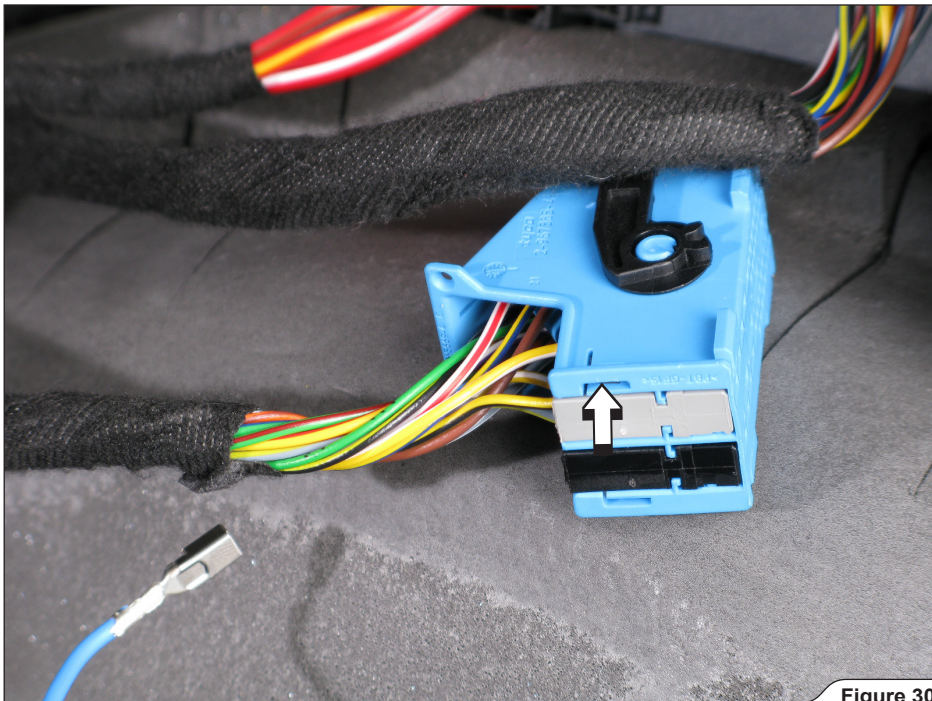

Figure 30
25. Dismantle the connector, plug the transmitter's blue wire with connector pin into the free connector spot (between yellow/white and yellow/black wires) and reconnect the connector into the ECU unit (**Figure 30, 31, 32**).